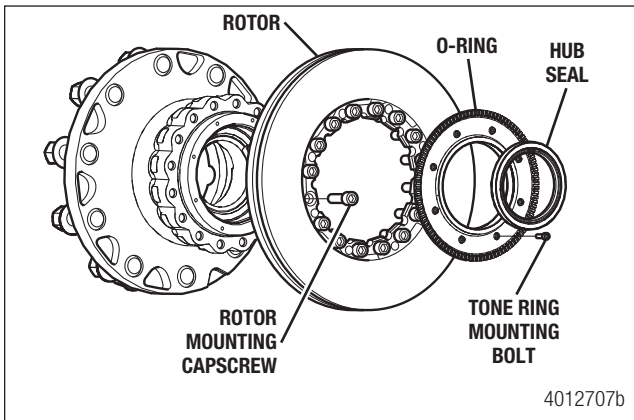

Figure 6.9
1. Remove the tone ring mounting bolts and remove the tone ring. Figure 6.9.